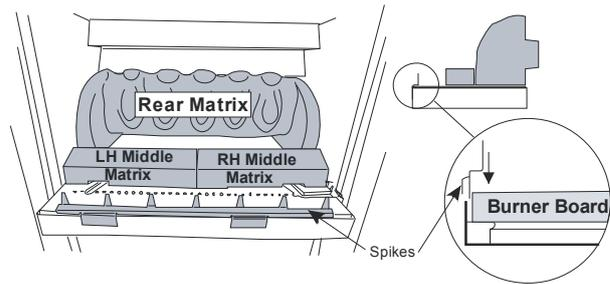

Figure 29
- Place the **middle matrix** onto the burner board so that it keys into the triangular depression on the board (See **Figure 29**). Bring the **rear matrix** forward to touch the middle matrix.
- Insert the front fuel spike centrally between the board and the front of the metal tray (see **Figure 29**).